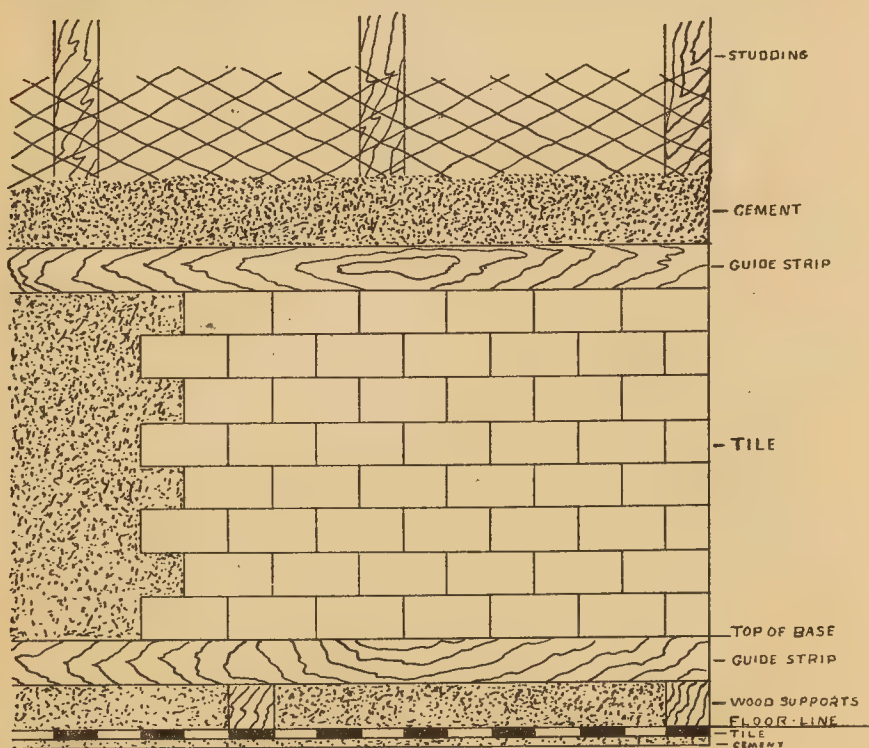

Fig. 10.
**THE TILES FOR THE WALLS OR WAINSCOTING** are first laid out and compared with the plan provided for setting them. Guide strips are then placed on the wall parallel and about two feet apart, the bottom one being so arranged to allow the base to be set after the body is in place. (See Figure 10.) When a cove base is used it may be necessary to set it first, but in all cases must be well supported on the concrete. (See Figure 11.) The strips must be placed plumb and even with the intended finished wall line.